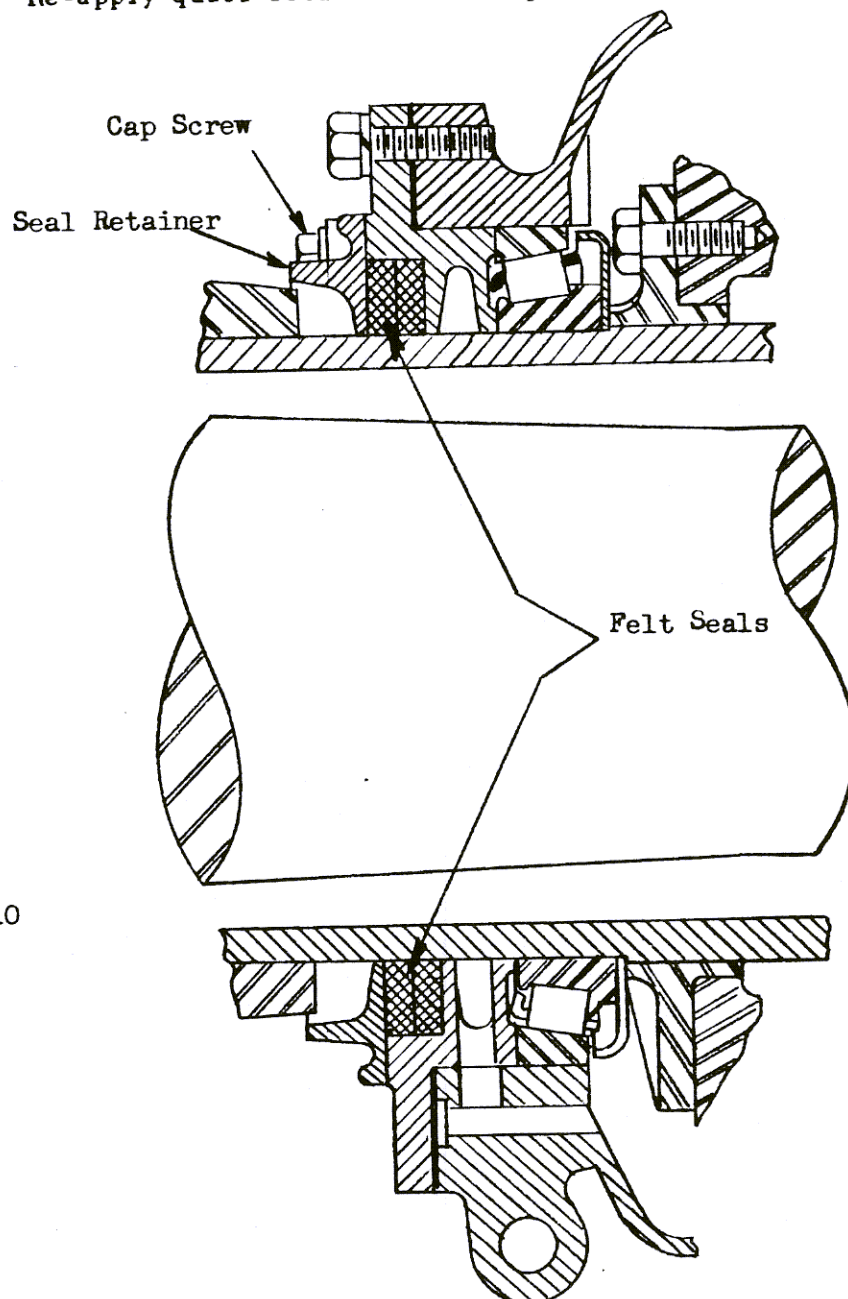

Figure 10
1. Remove 1/2" cap screws in quill retainer. The quill retainer is in two halves with five cap screws in each half. See Figure 10.